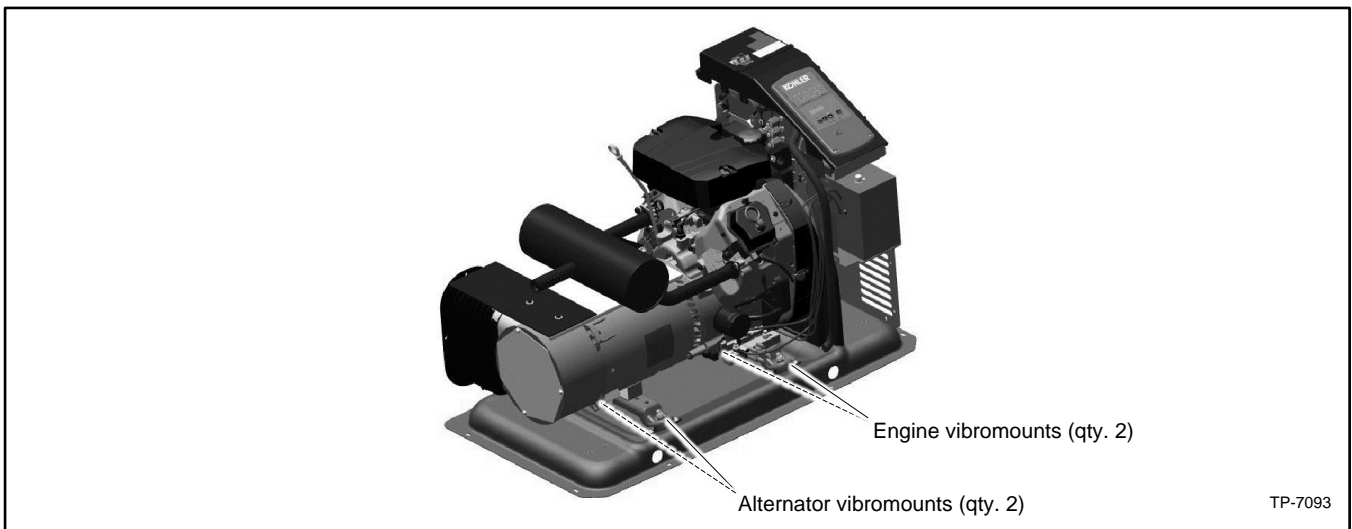

Figure 134 Vibromounts
- b. Lower the end of the generator set and reinstall the screws and washers that secure the vibromounts to the skid. Tighten all four vibromounts (for the alternator and engine) to 5.4 Nm (4 ft. lbs.). Do not over-tighten. See Figure 134.